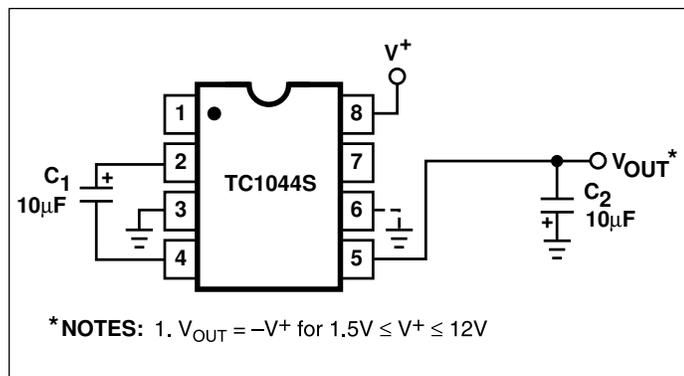
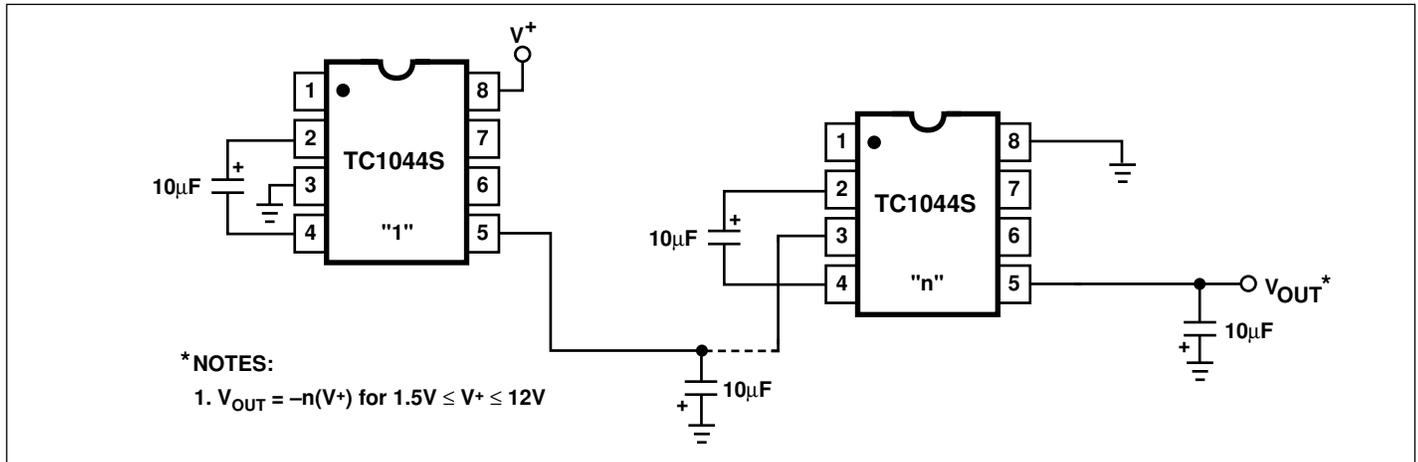
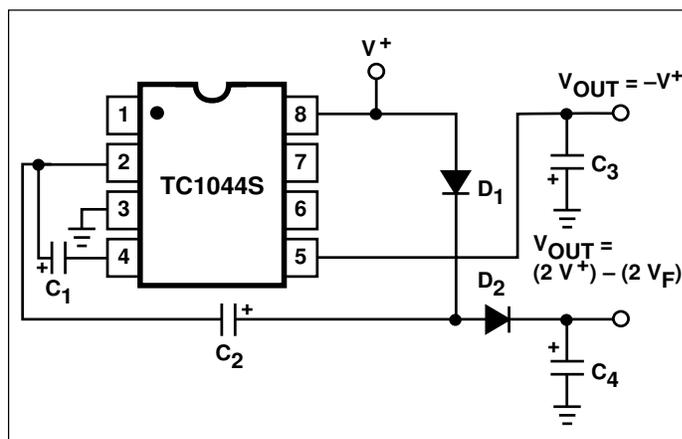
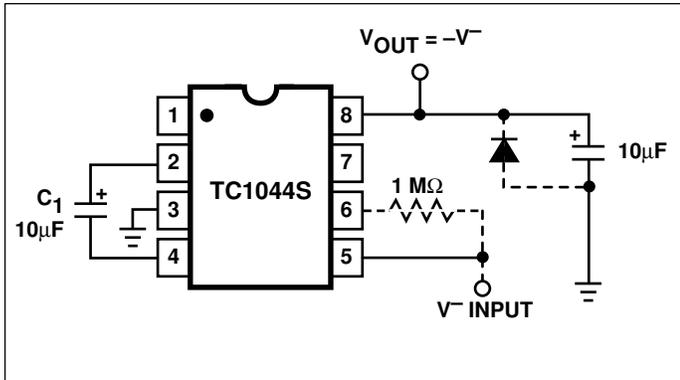

Figure 3. Simple Negative Converter
Figure 5. Increased Output Voltage by Cascading Devices
Figure 9. Combined Negative Converter and Positive Multiplier
Figure 10. Positive Voltage Conversion
Figure 3 shows typical connections to provide a negative supply where a positive supply is available. A similar scheme may be employed for supply voltages anywhere in the operating range of +1.5V to +12V, keeping in mind that pin 6 (LV) is tied to the supply negative (GND) only for supply voltages below 3.5V.
The output characteristics of the circuit in Figure 3 are those of a nearly ideal voltage source in series with 70Ω. Thus, for a load current of -10mA and a supply voltage of +5V, the output voltage would be -4.3V.
The TC1044S may be cascaded as shown (Figure 5) to produce larger negative multiplication of the initial supply voltage. However, due to the finite efficiency of each device, the practical limit is 10 devices for light loads. The output voltage is defined by:
Figure 9 combines the functions shown in Figures 3 and 8 to provide negative voltage conversion and positive voltage multiplication simultaneously. This approach would be, for example, suitable for generating +9V and -5V from an existing +5V supply. In this instance, capacitors  $C_1$  and  $C_3$  perform the pump and reservoir functions, respectively, for the generation of the negative voltage, while capacitors  $C_2$  and  $C_4$  are pump and reservoir, respectively, for the multiplied positive voltage. There is a penalty in this configuration which combines both functions, however, in that the source impedances of the generated supplies will be somewhat higher due to the finite impedance of the common charge pump driver at pin 2 of the device.
Since the switches that allow the charge pumping operation are bidirectional, the charge transfer can be performed backwards as easily as forwards. Figure 10 shows a TC1044S transforming -5V to +5V (or +5V to +10V, etc.). The only problem here is that the internal clock and switch-drive section will not operate until some positive voltage has been generated. An initial inefficient pump, as shown in Figure 9, could be used to start this circuit up, after which it
will bypass the other ( $D_1$  and  $D_2$  in Figure 9 would never turn on), or else the diode and resistor shown dotted in Figure 10 can be used to "force" the internal regulator on.
The same bidirectional characteristics used in Figure 10 can also be used to split a higher supply in half, as shown in Figure 11. The combined load will be evenly shared between the two sides. Once again, a high value resistor to the LV pin ensures start-up. Because the switches share the load in parallel, the output impedance is much lower than in the standard circuits, and higher currents can be drawn from the device. By using this circuit, and then the circuit of Figure 5, +15V can be converted (via +7.5V and -7.5V) to a nominal -15V, though with rather high series resistance ( $\sim 250\Omega$ ).